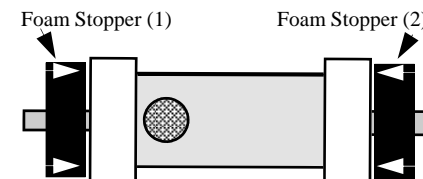

Figure 3
7. Position the foam stoppers around the wire(s), then slide one stopper into each end of the closure. (see figure 3)